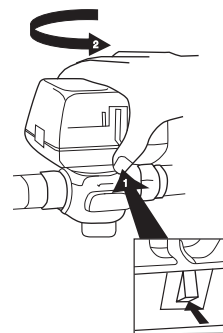

Fig. 5. Latch Mechanism to detach Actuator
4. The actuator head is automatically latched to the valve. To remove, press up on the latch mechanism with your thumb. It is located directly below the white manual open lever (see Fig. 5). Simultaneously press the actuator down towards the body with moderate hand force and turn the actuator counter-clockwise by 1/8 turn (45 degrees). Lift the actuator off the valve body.